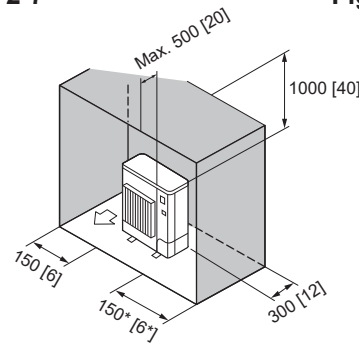

Fig. 2-11
6. Obstacles at rear, sides, and above only (Fig. 2-11)
7. Obstacles at rear, sides, and above only (Fig. 2-11)
8. Obstacles at rear, sides, and above only (Fig. 2-11)
9. Obstacles at rear, sides, and above only (Fig. 2-11)
10. Obstacles at rear, sides, and above only (Fig. 2-11)
11. Obstacles at rear, sides, and above only (Fig. 2-11)
12. Obstacles at rear, sides, and above only (Fig. 2-11)
13. Obstacles at rear, sides, and above only (Fig. 2-11)
14. Obstacles at rear, sides, and above only (Fig. 2-11)
15. Obstacles at rear, sides, and above only (Fig. 2-11)
16. Obstacles at rear, sides, and above only (Fig. 2-11)
17. Obstacles at rear, sides, and above only (Fig. 2-11)
18. Obstacles at rear, sides, and above only (Fig. 2-11)
19. Obstacles at rear, sides, and above only (Fig. 2-11)
20. Obstacles at rear, sides, and above only (Fig. 2-11)
21. Obstacles at rear, sides, and above only (Fig. 2-11)
22. Obstacles at rear, sides, and above only (Fig. 2-11)
23. Obstacles at rear, sides, and above only (Fig. 2-11)
24. Obstacles at rear, sides, and above only (Fig. 2-11)
25. Obstacles at rear, sides, and above only (Fig. 2-11)
26. Obstacles at rear, sides, and above only (Fig. 2-11)
27. Obstacles at rear, sides, and above only (Fig. 2-11)
28. Obstacles at rear, sides, and above only (Fig. 2-11)
29. Obstacles at rear, sides, and above only (Fig. 2-11)
30. Obstacles at rear, sides, and above only (Fig. 2-11)
31. Obstacles at rear, sides, and above only (Fig. 2-11)
32. Obstacles at rear, sides, and above only (Fig. 2-11)
33. Obstacles at rear, sides, and above only (Fig. 2-11)
34. Obstacles at rear, sides, and above only (Fig. 2-11)
35. Obstacles at rear, sides, and above only (Fig. 2-11)